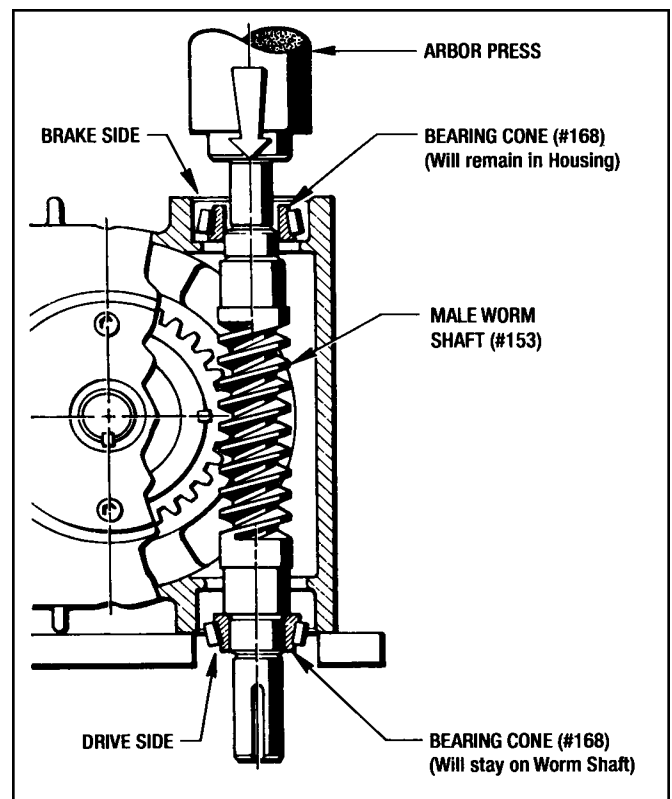

Figure 7.8 - Pressing Male Worm Shaft Out Of Housing
6. Remove (4) Screws (#199) and (4) Lockwashers (#175) and remove Bearing Retainer (#155) carefully so the oil seal lip will not be damaged.
10. With an arbor press, press the brake end (smaller dia. shaft) of the Worm Shaft (#153) until one of the Bearing Cones (#168) slides off of the bearing shaft diameter. (See Figure 7.8)